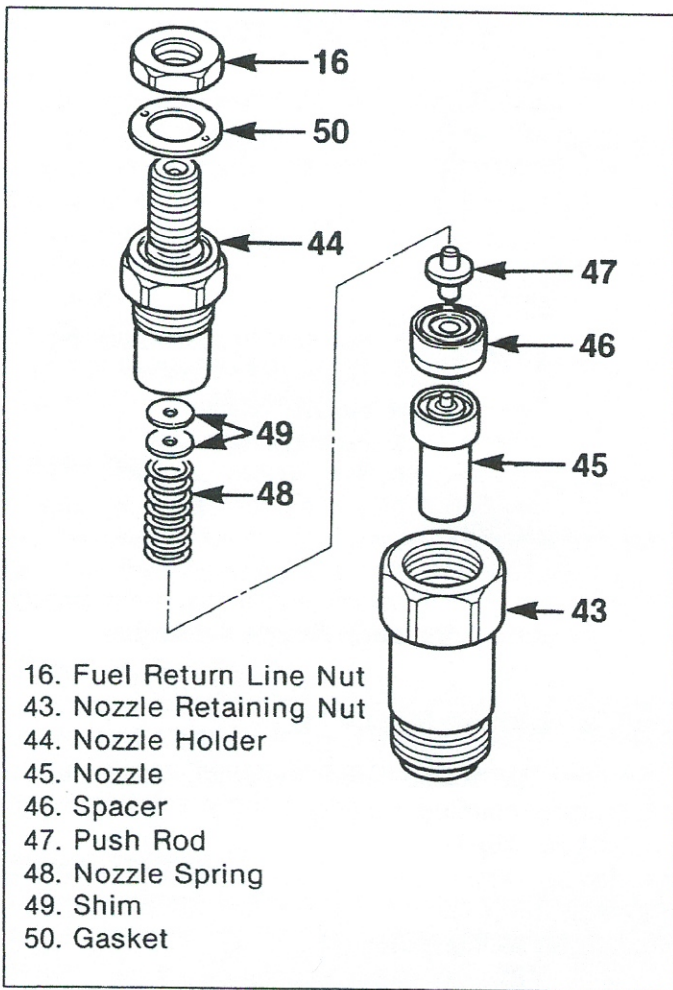

Figure 11. Injection Nozzle Assembly
Disassemble (Figure 11)
**Inspect (Figures 11 and 16)**
- The following items should be checked on all parts (figure 11):
**Assemble (Figure 11)**